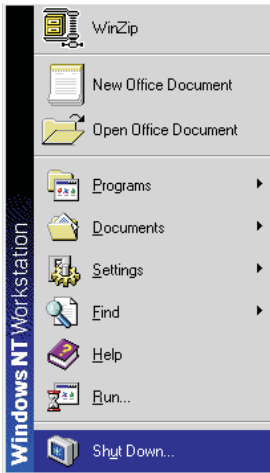

Fig.1
Step 1 : Click on the Start button (Win95, Win98 or Win NT) and choose " Shut Down...". as shown in Fig.1